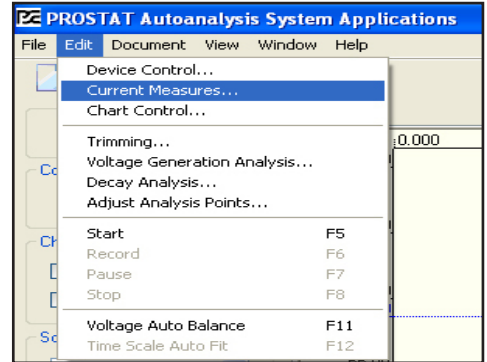

Figure 24: Access Current Measures through the Edit Menu
1. Press **Edit** on the menu bar and select Current Measures. See Figure 24 and 25.